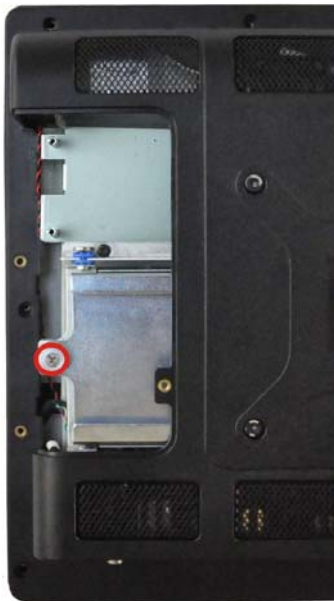

Figure 4-2: HDD Bracket Screw
Step 3: Loosen the captive screw to release the HDD bracket from the chassis (**Figure 4-2**).